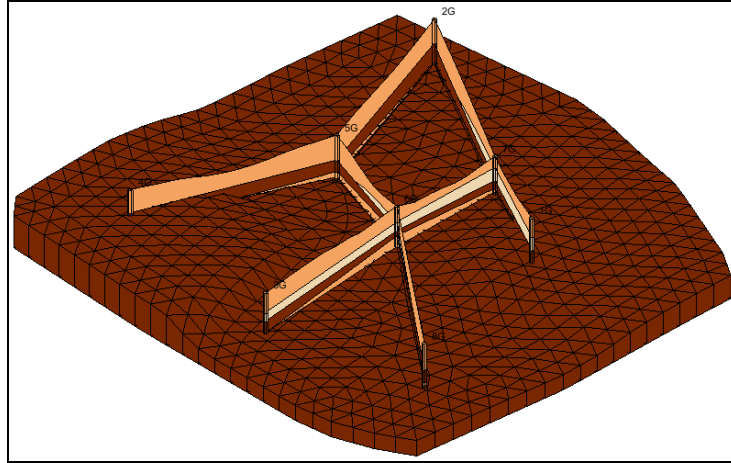

Figure 10 Previous Silty_Clay 1 solid
3. Turn on the corresponding solid (“Silty_Clay 1”) in the “solids (2)” folder. Notice the area that the solid covers (Figure 10).
4. Turn on and off (“Silty_Clay 1”) in the “solids (2)” folder until comfortable with the difference between the one from “solids (2)” and the one from “solids (3)”.